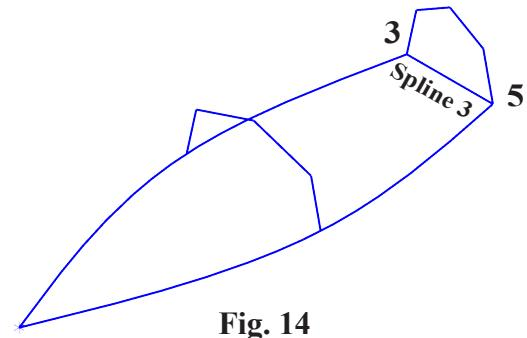

Fig. 14
Step 4. Also, spline across at rear rib 3 and 5, Fig. 14.